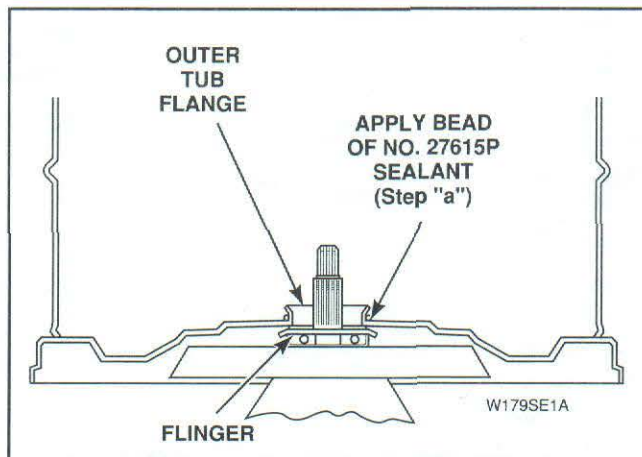

Figure 42
- a. Apply a small amount of 27615P Sealant, (supplied in kit) around outer surface of tub flange, *Figure 42*.
IMPORTANT: DO NOT allow sealant to contact flinger, *Figure 42*, because this could prevent flinger from keeping moisture out of upper bearing.